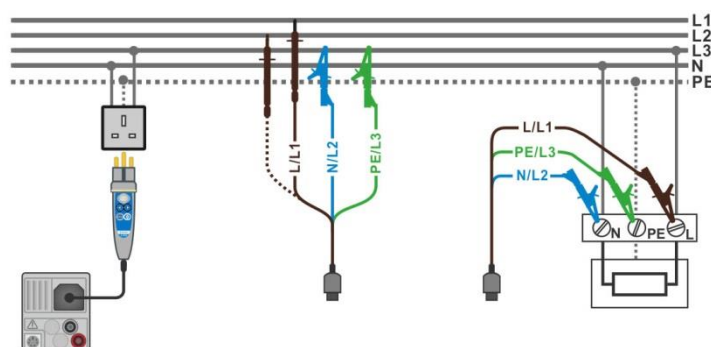

Figure 7.47: Phase-neutral or phase-phase line impedance measurement – connection of Plug commander and 3-wire test lead
- › Connect test leads or Plug commander to the object under test, see **Figure 7.47**.